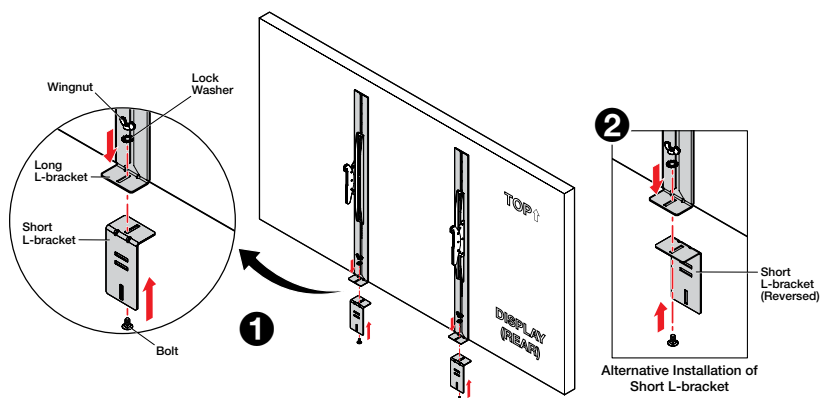

Figure 41. Installing Short L-brackets on the Long L-brackets
5. Position the short L-bracket under the long L-bracket that was installed in step 4 on page 27 so that the L bends of each bracket are paired together (see figure 41, **1**). Then install one bolt with a wingnut and lockwasher (included in the kit) so that the long L-bracket and short L-bracket are held together. Tighten the wingnut. Repeat this procedure for the other long L-bracket on the other side of the display.